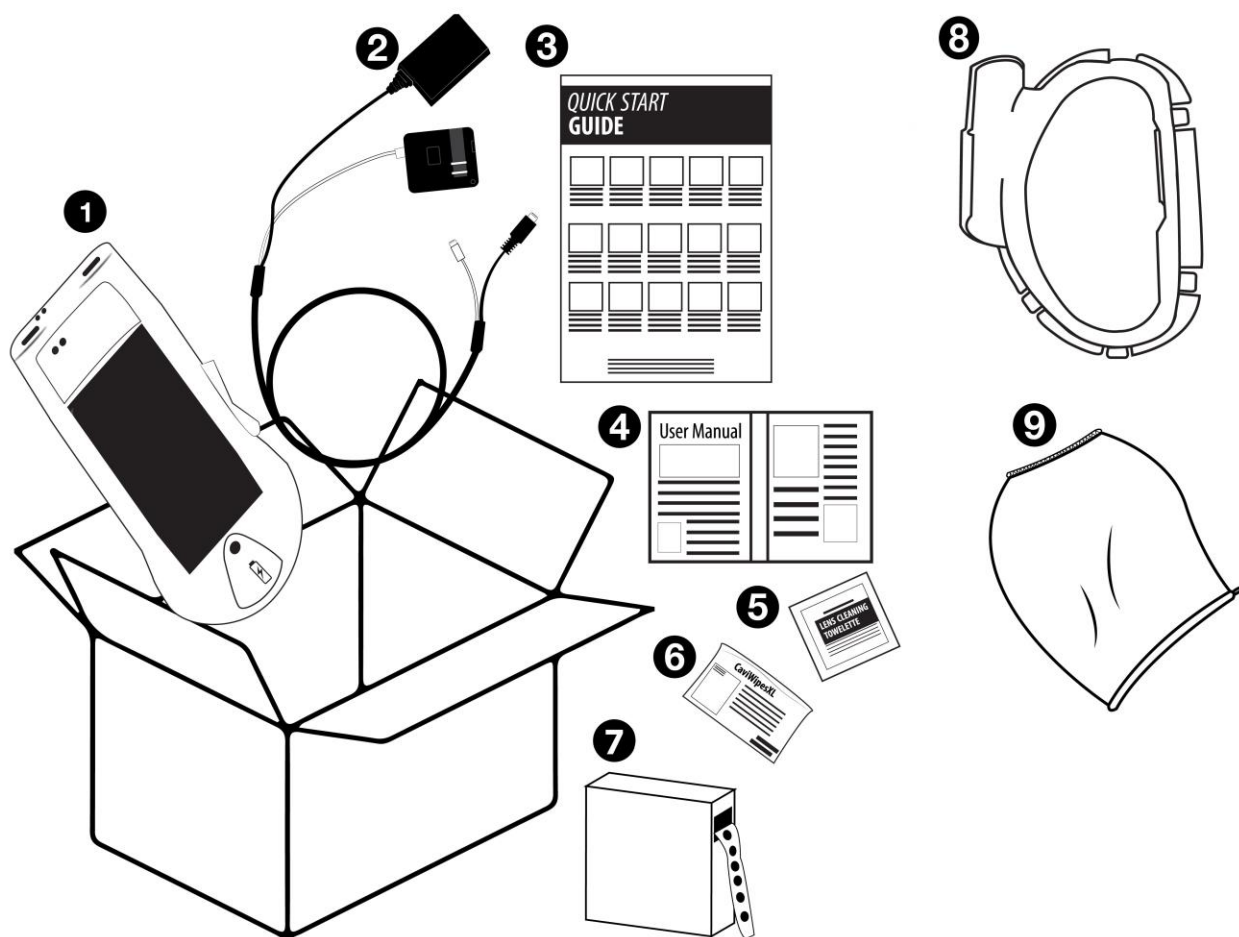

Figure 1: MolecuLight *i:X* Imaging Device and its components
The MolecuLight *i:X* Imaging Device comes fully assembled and ready for use. The standard system configuration includes items 1-7 illustrated in Figure 1 and detailed in Table 6 below. These items allow the MolecuLight *i:X* Imaging Device to be used in a patient care setting.
The MolecuLight DarkDrape and MolecuLight Adapter (Figure 1, items 8-9) are not part of the MolecuLight *i:X* System configuration. They are optional accessories that may be ordered separately.